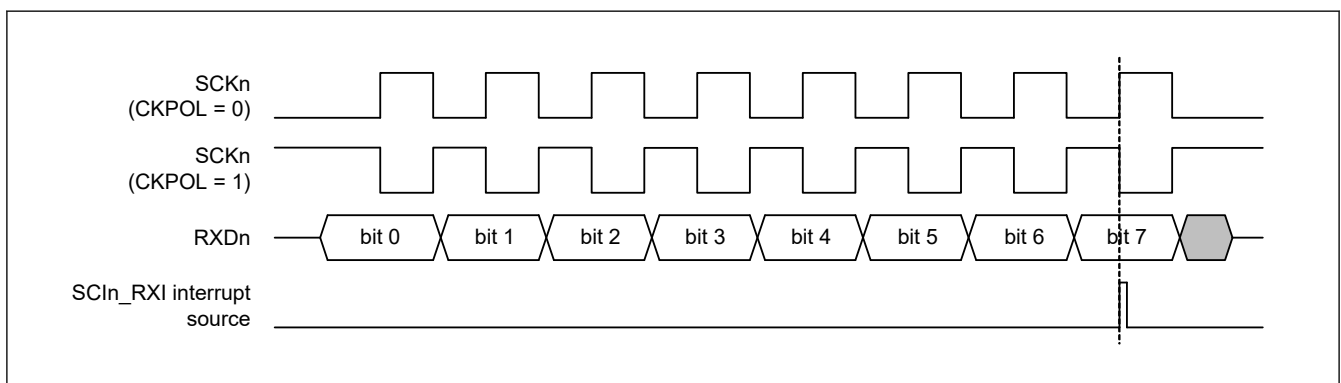

Figure 27.105 Timing of SCIIn\_RXI interrupt in simple SPI mode with clock delay
- For the clock delay setting (SPMR.CKPH bit is 1), the receive data full interrupt (SCIIn\_RXI) is generated before the final clock edge on the SCKn pin as indicated in Figure 27.105. If the TE and RE bits in the SCR register become 0 before the final edge of the clock signal on the SCKn pin, the SCKn pin is placed in the high-impedance state, so the width of the last clock pulse of the transfer clock is shortened. Additionally, an SCIIn\_RXI interrupt might lead to the input signal on the SSn pin of a connected slave going to the high level before the final edge of the clock signal on the SCKn pin, leading to incorrect operation of the slave.